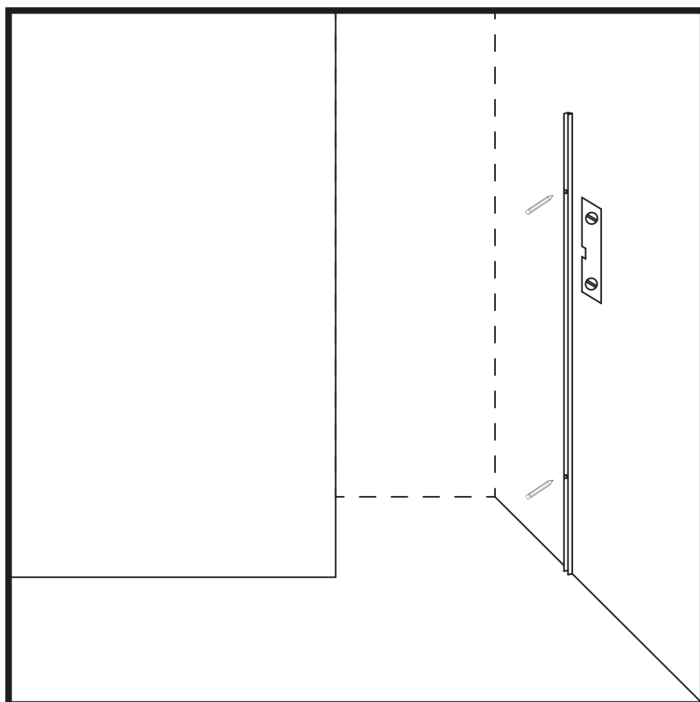

Figure 2
2. Using a spirit level, place the hinge bar profile vertically on the wall so that the edge is flush with the edge of the floor. (Figure 2)